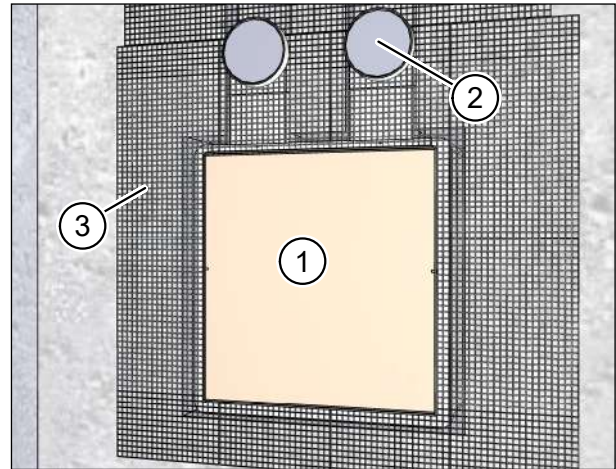

Fig. 30: Plastering the installation kit and flat ductwork / flexible pipes on the inside
- ▶ Make sure that the plaster cover (item 1 in Fig. 30) is seated in the wall box.
- ▶ Use adhesive tape to cover over the extract air and supply air outlets (item 2 in Fig. 30).
- ▶ Apply the plaster scrim M-WRG PG (item 3 in Fig. 30) to the installation kit and the solid wall.